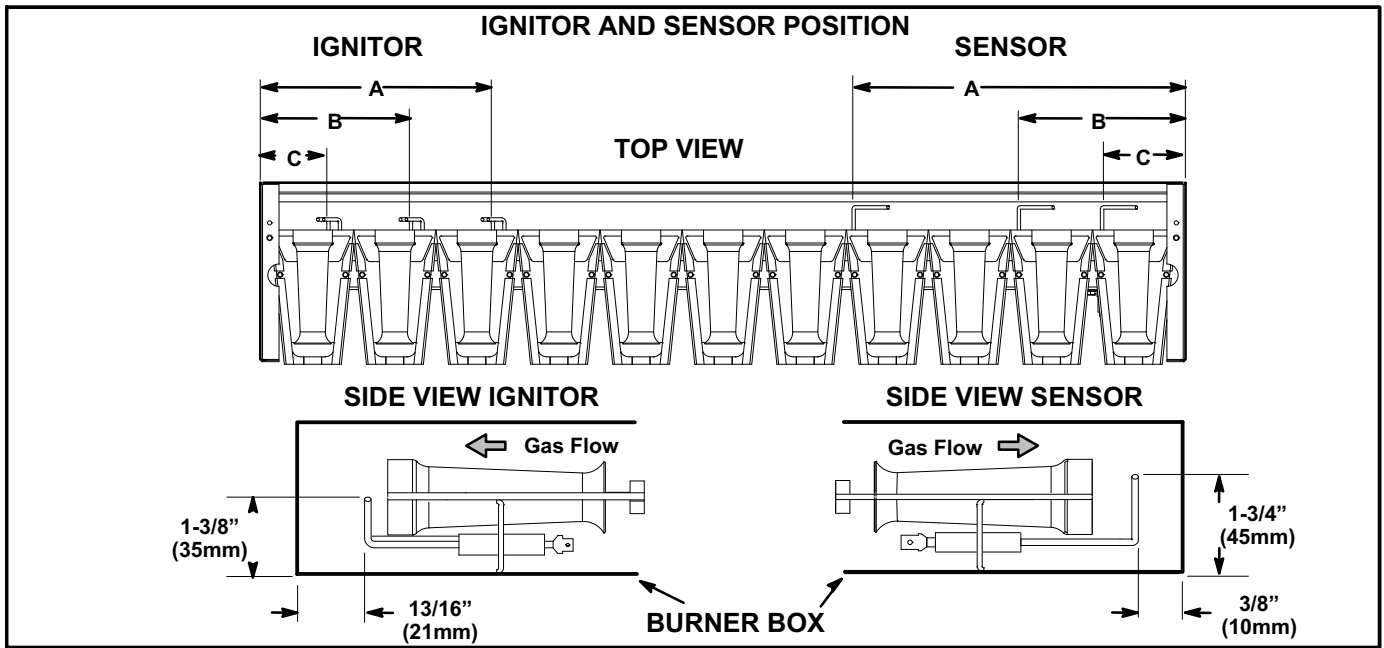

FIGURE 36
- 5- Check the alignment of the ignitor and the sensor as shown in figure 36 and table 27.